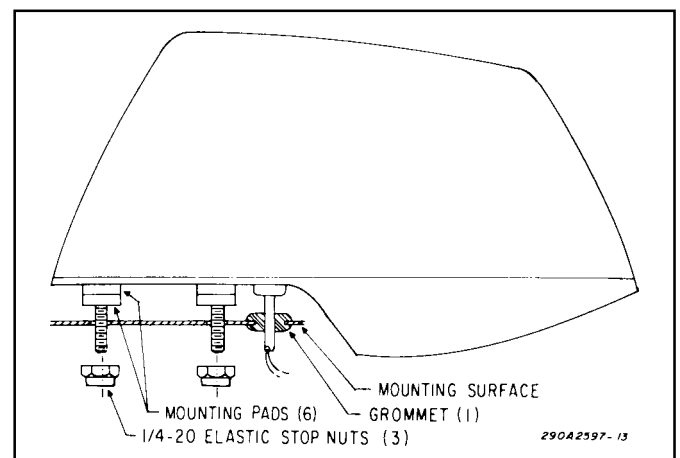

Figure 1.
A. Edge Mounting (see figure 1).
5. Install two mounting pads over each of the three mounting studs as shown in figure 1.